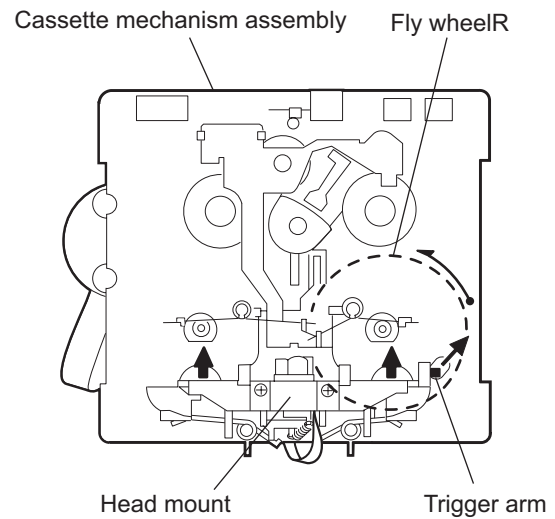

Fig.1
2.5.1 Removing the Play/Record & Clear head (See Fig.1~3)